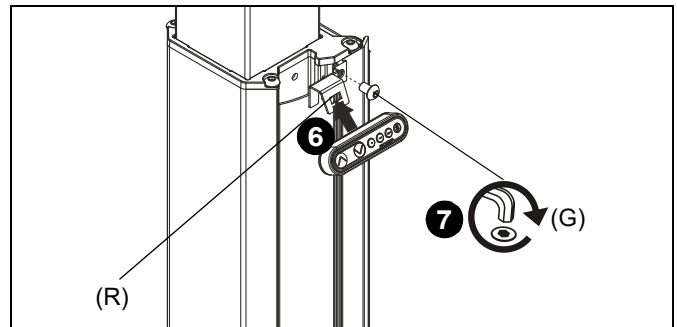

Figure 4
6. Attach control pad bracket (S) to column assembly (P) using 5/16-18 x 1/2" button head cap screw (G). (See Figure 4)